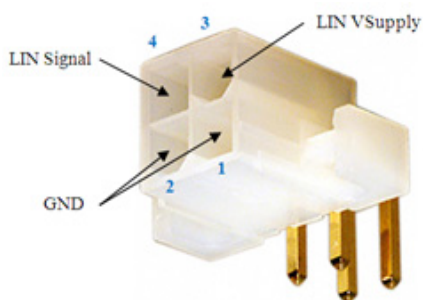

Figure 19. LIN Molex connector
- Connected to a standard 4-pin Molex connector (P25) shown in Figure 19 and used on most other Freescale EVBs supporting LIN,